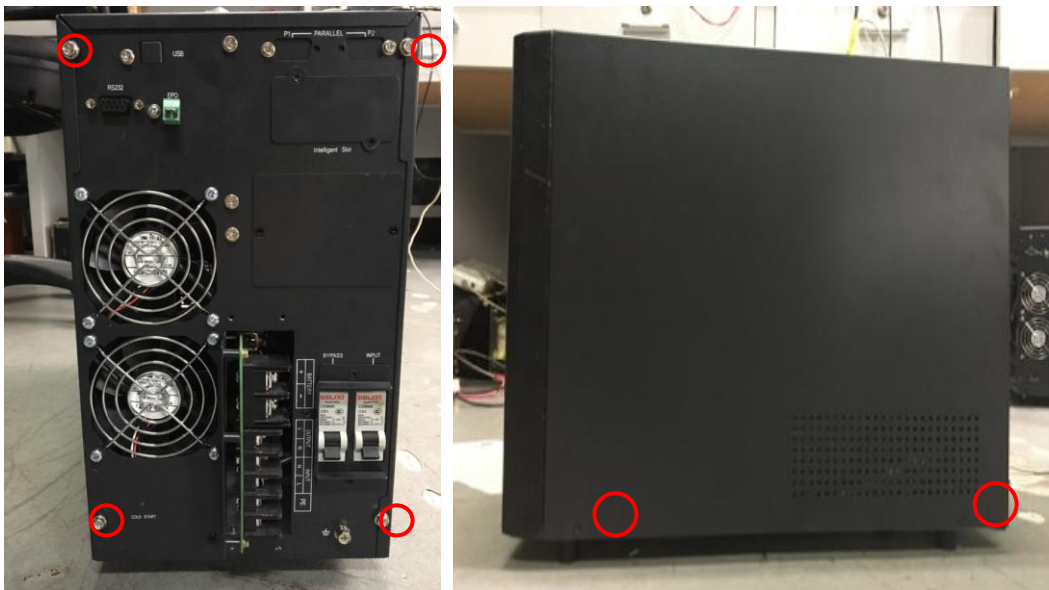

Figure 1 Remove cover
1. Remove the cover, 4 pcs screws on the back of cabinet, 2 screws on both sides of the cabinet, as is shown in figure 1.